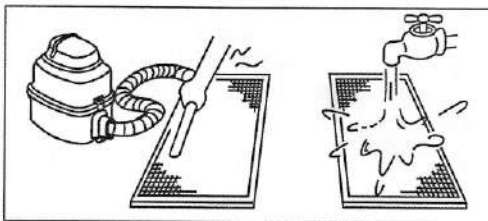

FIGURE 6: Clean The Air Filter
1. Tear down the two bolts signed A and B, take down the cover for air filter, see in Figure 6.